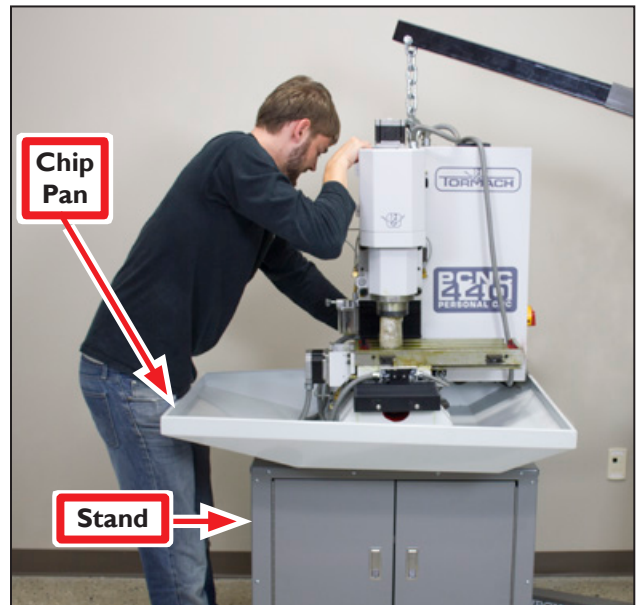

Figure 3.5
2. Lower mill slowly while lining up holes in chip pan, mill, and stand (see **Figure 3.5**).